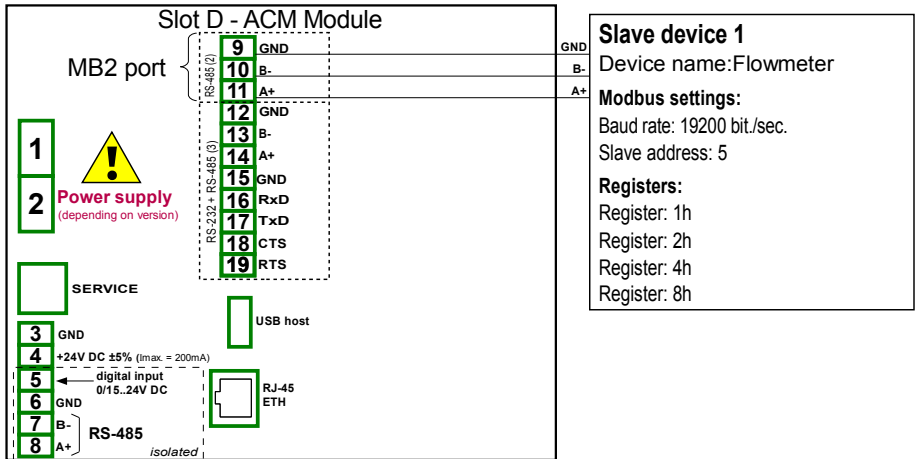

Fig. 7.155. Connection diagram for the Modbus MB2 port
First we need to configure the device according to the following recommendations, then connect the device in according with **Fig. 7.155**.
- using the arrows in the upper right corner choose **Port number: 1 (MB1** in accordance with **Fig. 7.155)**,